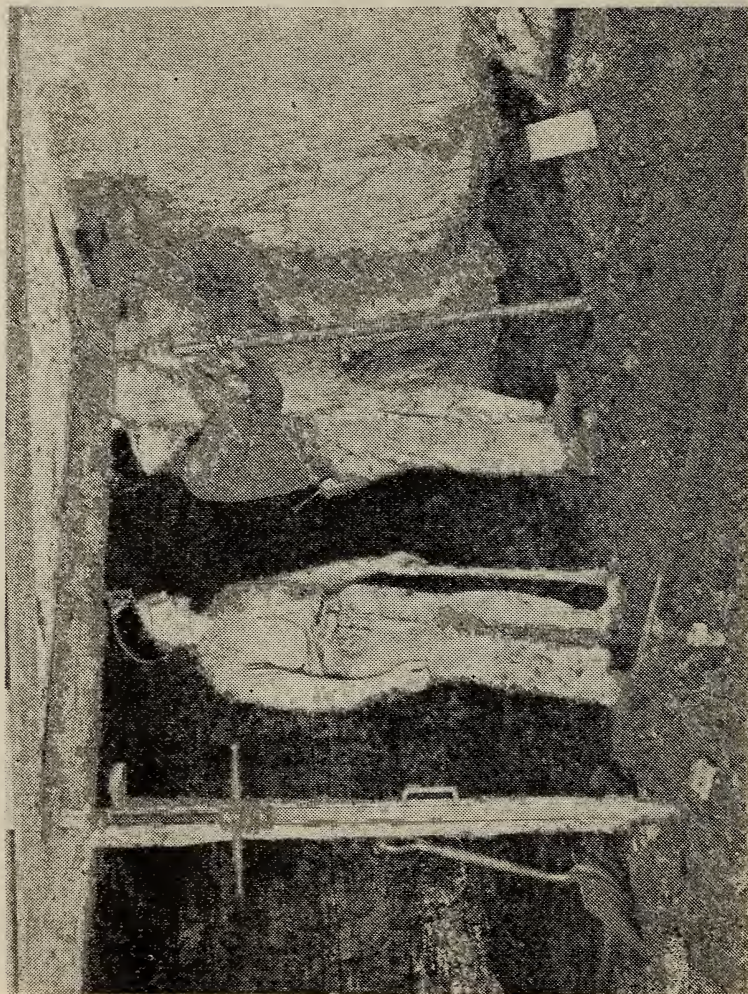

FIGURE 6.—A measuring stick should be used, so that timbers can always be cut to the proper length.
A. They should be of proper length and straight-grained, with a large enough sectional area and ends sawed square. (See figs. 6 and 7.)